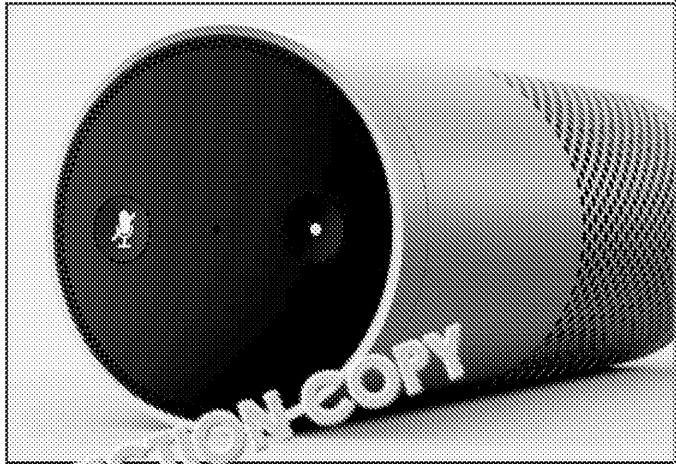

Figure 9
14. Figure 9 shows a 'virtual assistant' that is connected to the Internet.